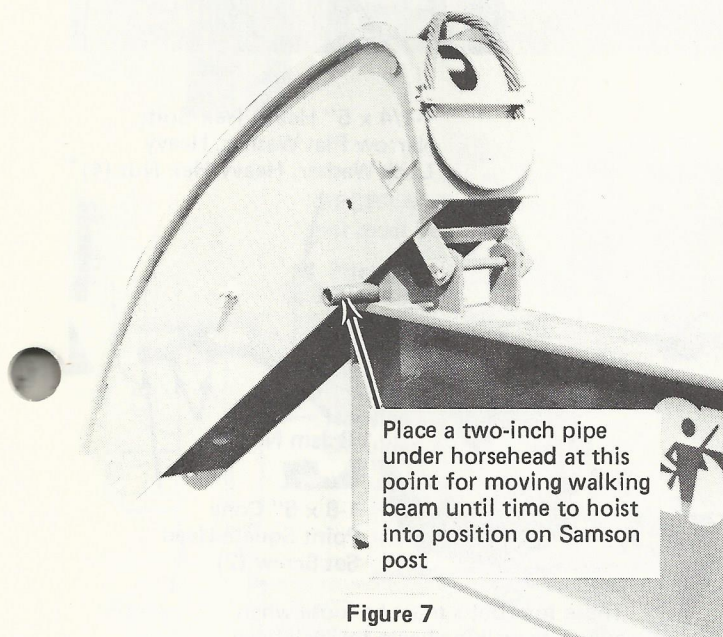

Figure 7
3. The walking beam is shipped as a separate unit with the horsehead installed backwards. Disconnect horsehead and reinstall it on the walking beam as shown in figure 7, supporting it with a piece of pipe. Remove shipping skids and hoist walking beam (approximately 3400 pounds) into position for attachment to equalizer beam.